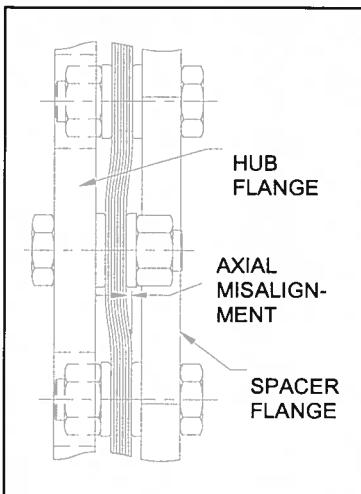

FIG. 2: EXCESSIVE AXIAL MISALIGNMENT AT INSTALLATION
7. Move the equipment into place. Distance 'D' between shaft ends and/or flange face should match the target dimension within +/-25% of the coupling's axial capacity. Generally speaking the axial error at installation should not be visible to the naked eye- see Figure 2. See Table 1 or the assembly drawing for dimensions.